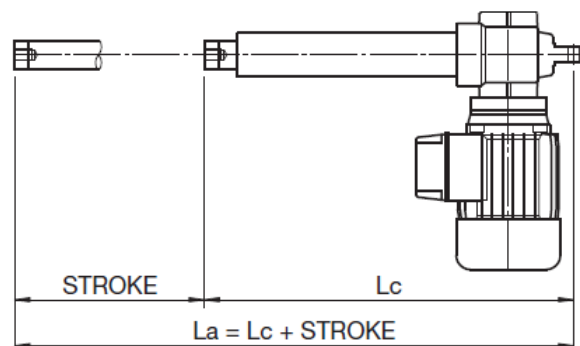

Figure 6.10 – “Lc” and “La” dimensions
- Check if the extreme dimensions of the actuator “Lc” and “La” (see Fig. 6.10) are compatible with extreme positions of the plant component that has to be moved.
- Before to start relubrication, put the actuator in extended position (La – see Fig. 6.10)